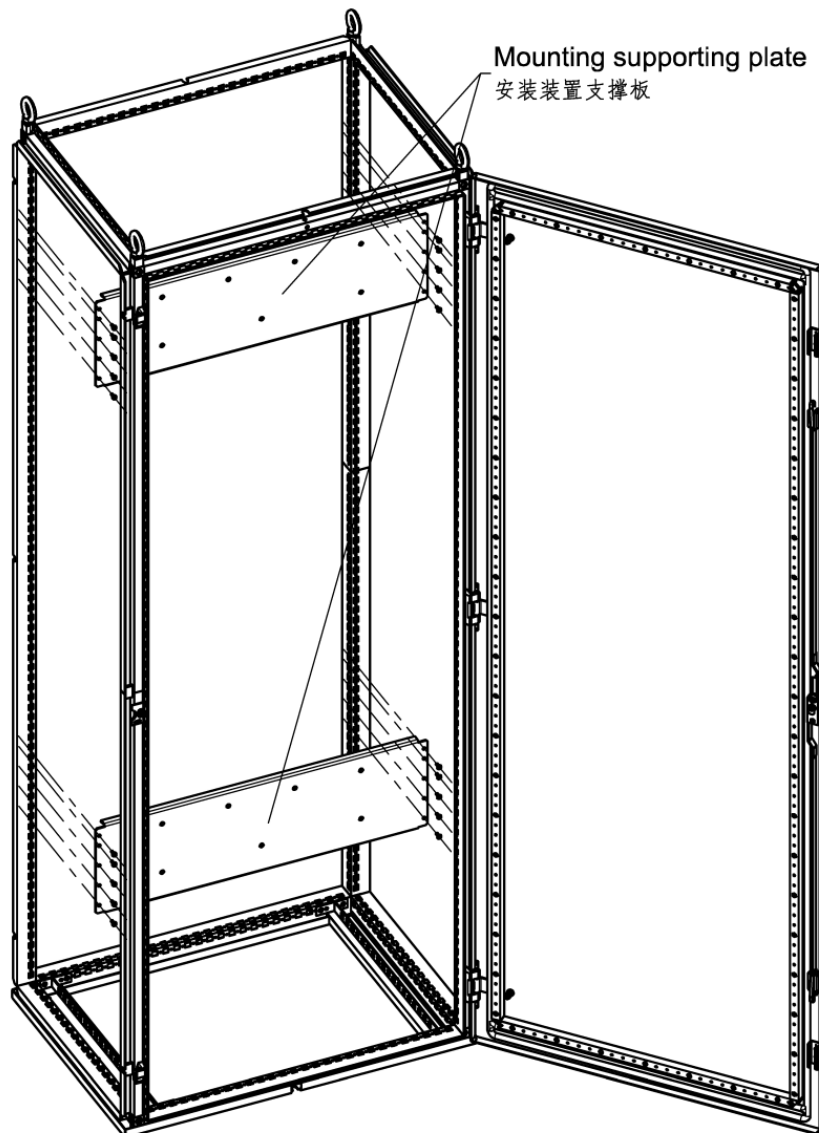

Figure 3-2 Mounting supporting plate
- 2) Mounting support plate, see Figure 3-2;